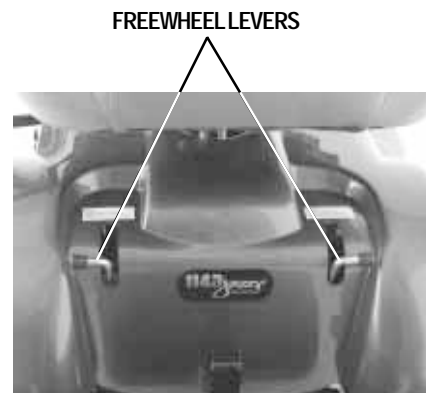

Figure 5. Freewheel Levers (Disengaged)
3. Turn them outward to disengage the drive motors. See figure 5.